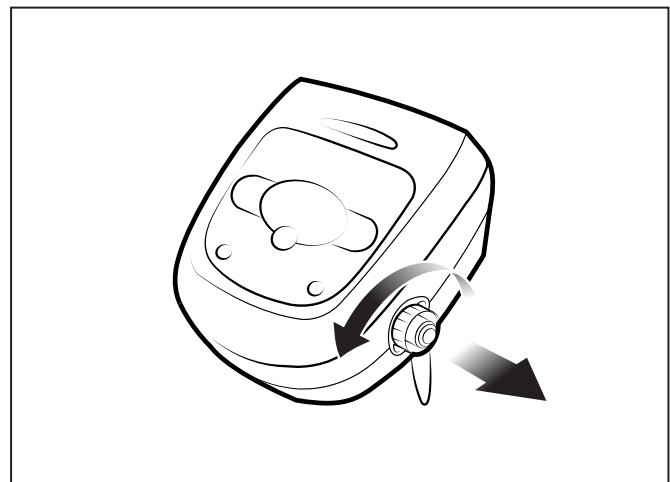

Figure 3. Remove Protective Cap
1. Unscrew the protective cap for the floating cable from the side of the control box by turning counter-clockwise (Figure 3).